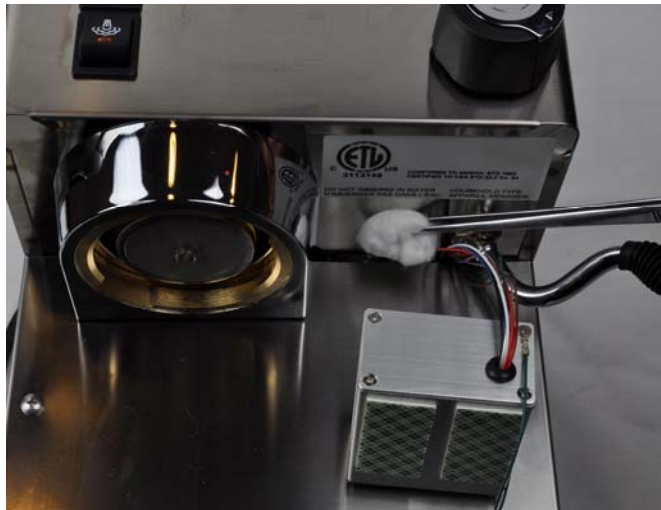

Figure 30. Cleaning the box mounting area with alcohol.
- 7) Clean the controller box mounting area on the espresso machine with a cotton ball soaked with alcohol to ensure a good adhesion of the box, as shown in Figure 30. This is very important because the metal surface might contain oil that reduces the bonding strength of the tape. When properly installed, 3M double tape is very strong and durable. It has been used for industrial use such as in building structures and automobile parts.